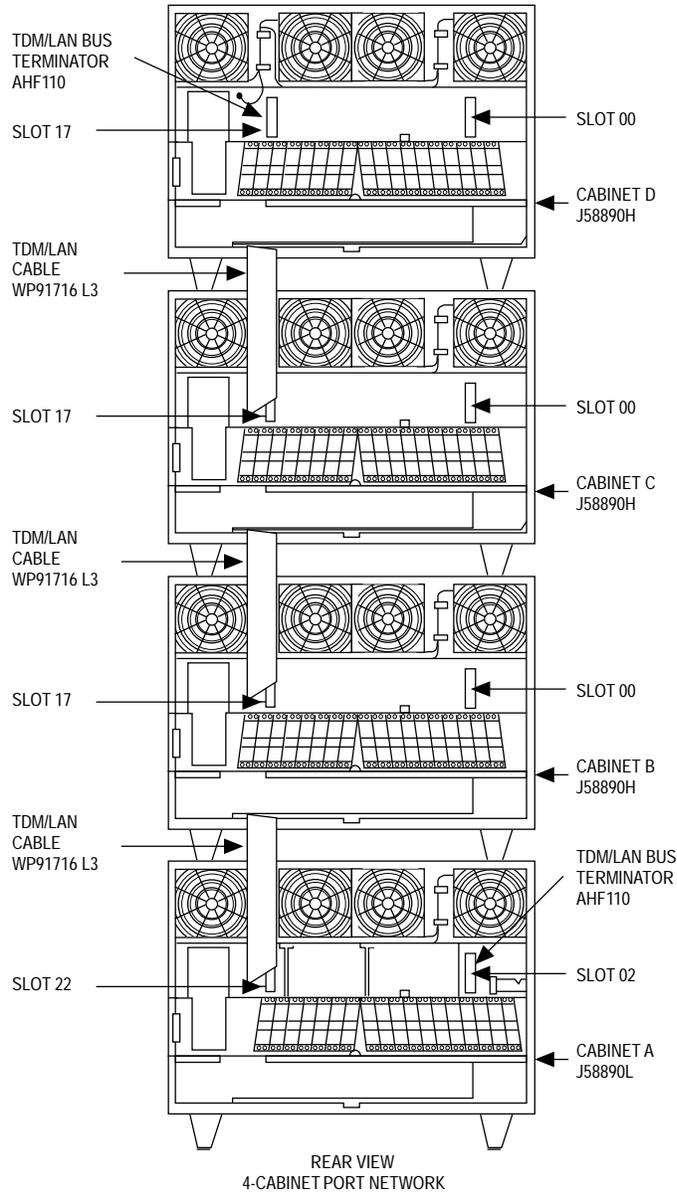

Figure 2-10. TDM/LAN Connections for G3i V4 PPN
- a. Verify that an AHF110 TDM/LAN bus terminator is installed on the right side of the enhanced control cabinet (looking from the back of the cabinet) as shown in Figure 2-10.
- b. On the top port cabinet, remove the existing TDM terminator (AHF1), and replace it with a AHF110 TDM/LAN bus terminator (see Figure 2-10).
1. Route and connect the new WP-91716 L3 TDM/LAN cables (see Figure 2-10). Use the following steps to route the cables between the R1V3 port cabinets being reused. The new cables are not run through the existing slot in the rear shelves.